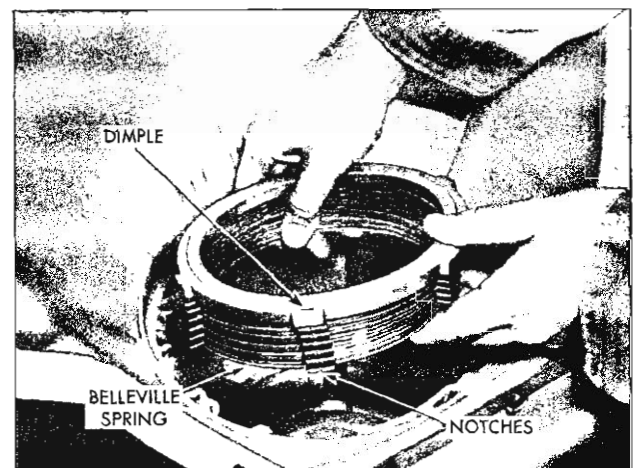

Fig. 35PG—Installing Clutch Plates (Typical)
12. Lubricate and install the reverse clutch pack (fig. 35PG) beginning with a reaction (spacer) plate and alternating with the drive plates (faced) until all reaction plates and all drive plates are in place. The notched lug on each reaction plate is installed in the groove at the 7 o'clock position in the case. Then install the thick pressure plate which has a "dimple" in one lug to align with the same slot in the case as the notched lugs on the other reaction plates.